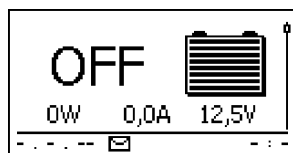

Fig. 4: Display after switching on the external battery fuse
6.  Press ESC to acknowledge the event message. The standard status display appears (Fig. 4).